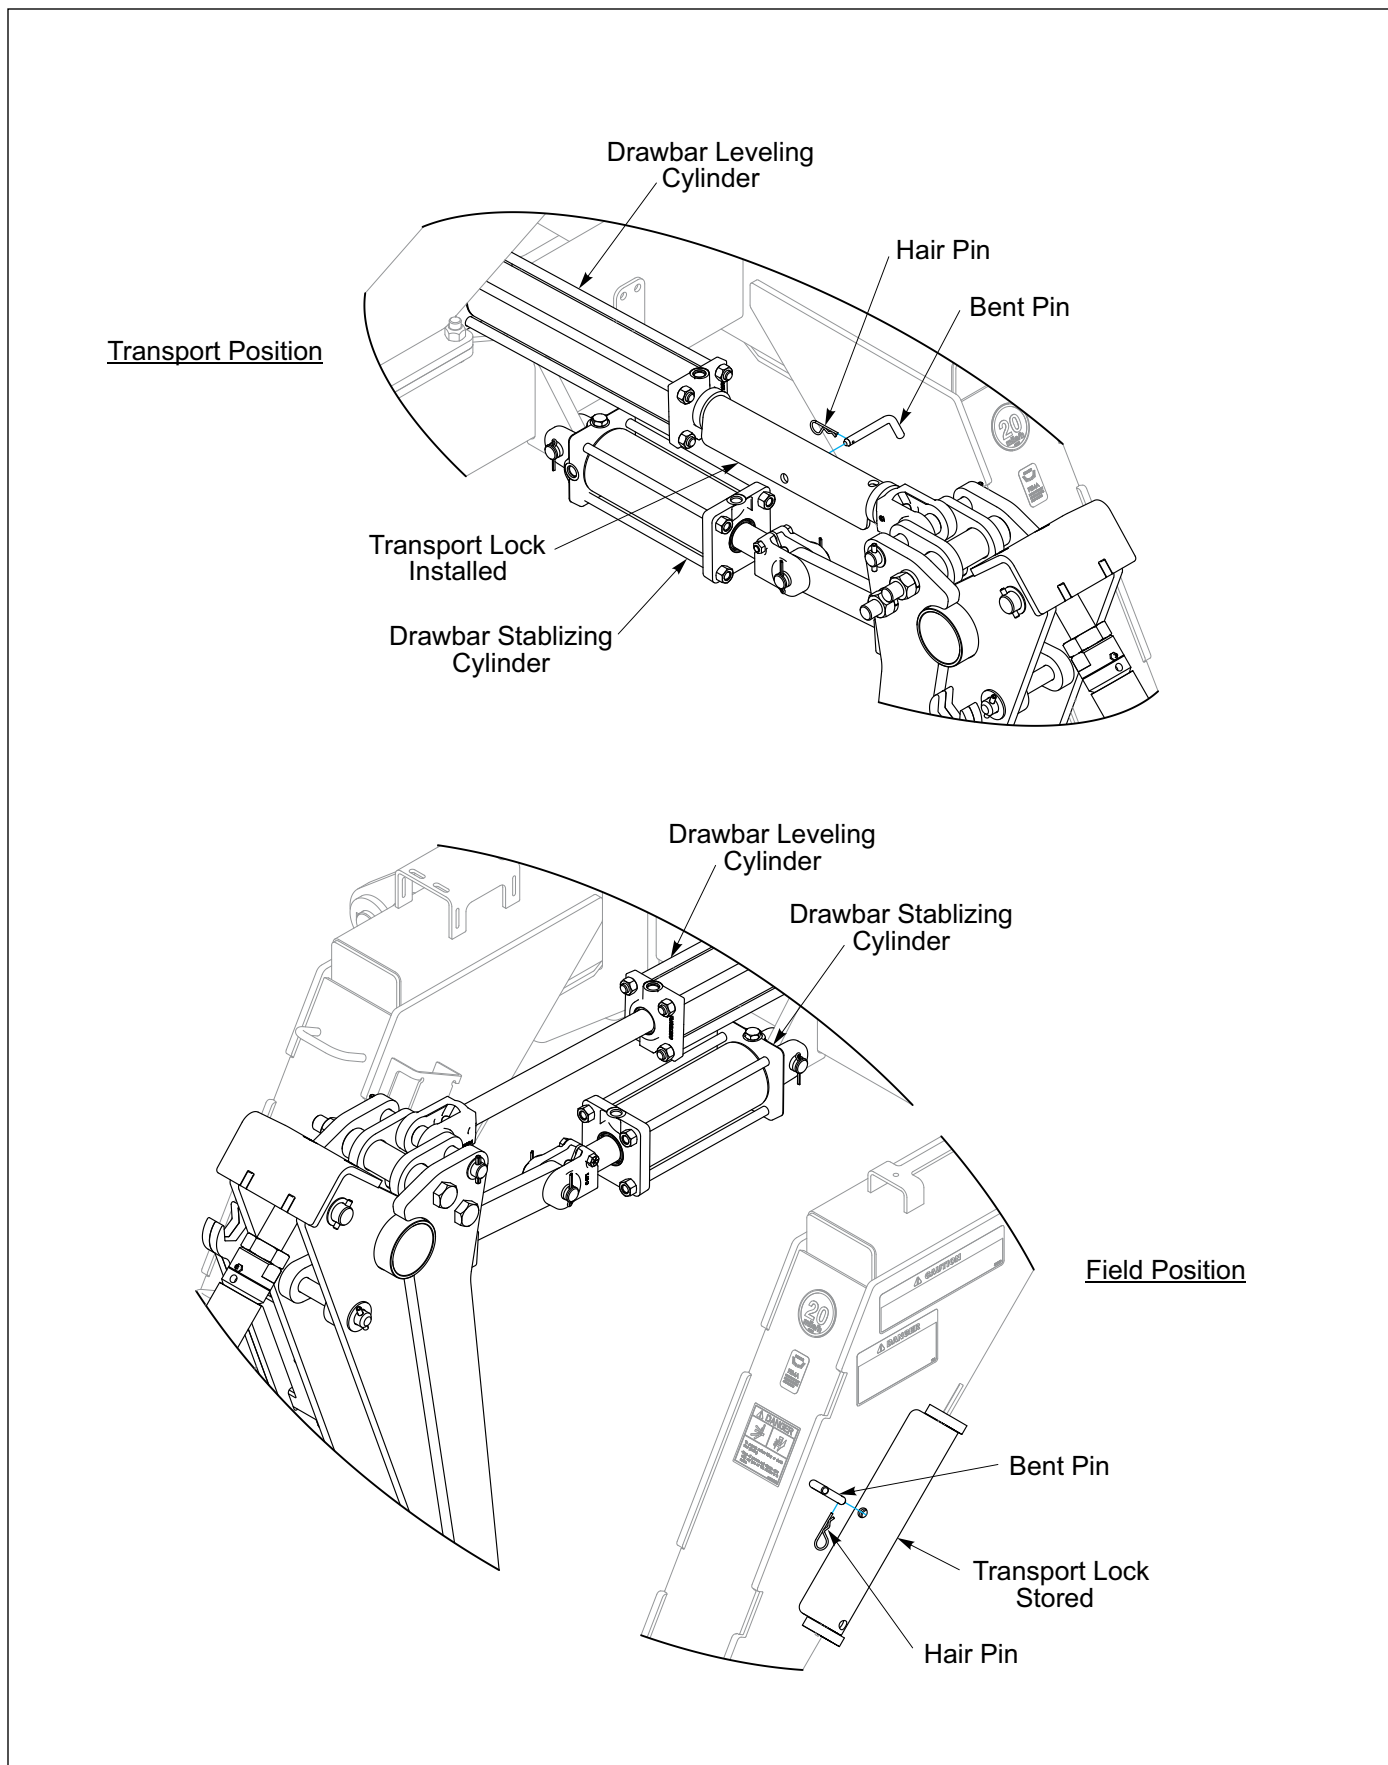

Figure 3-8: Drawbar Transport Lock
4. Remove Hitch Leveler Transport Lock, Bent Pin and Hair Pin from Hitch Leveler Cylinder and store it on Hitch Leveler Mast Tab. Install Bent Pin and Hairpin. **See Figure 3-8.**
4. Remove Hitch Leveler Transport Lock, Bent Pin and Hair Pin from Hitch Leveler Mast Tab and place Transport Lock over the Hitch Leveler Cylinder Rod. Install Bent Pin and Hairpin. **See Figure 3-8.**